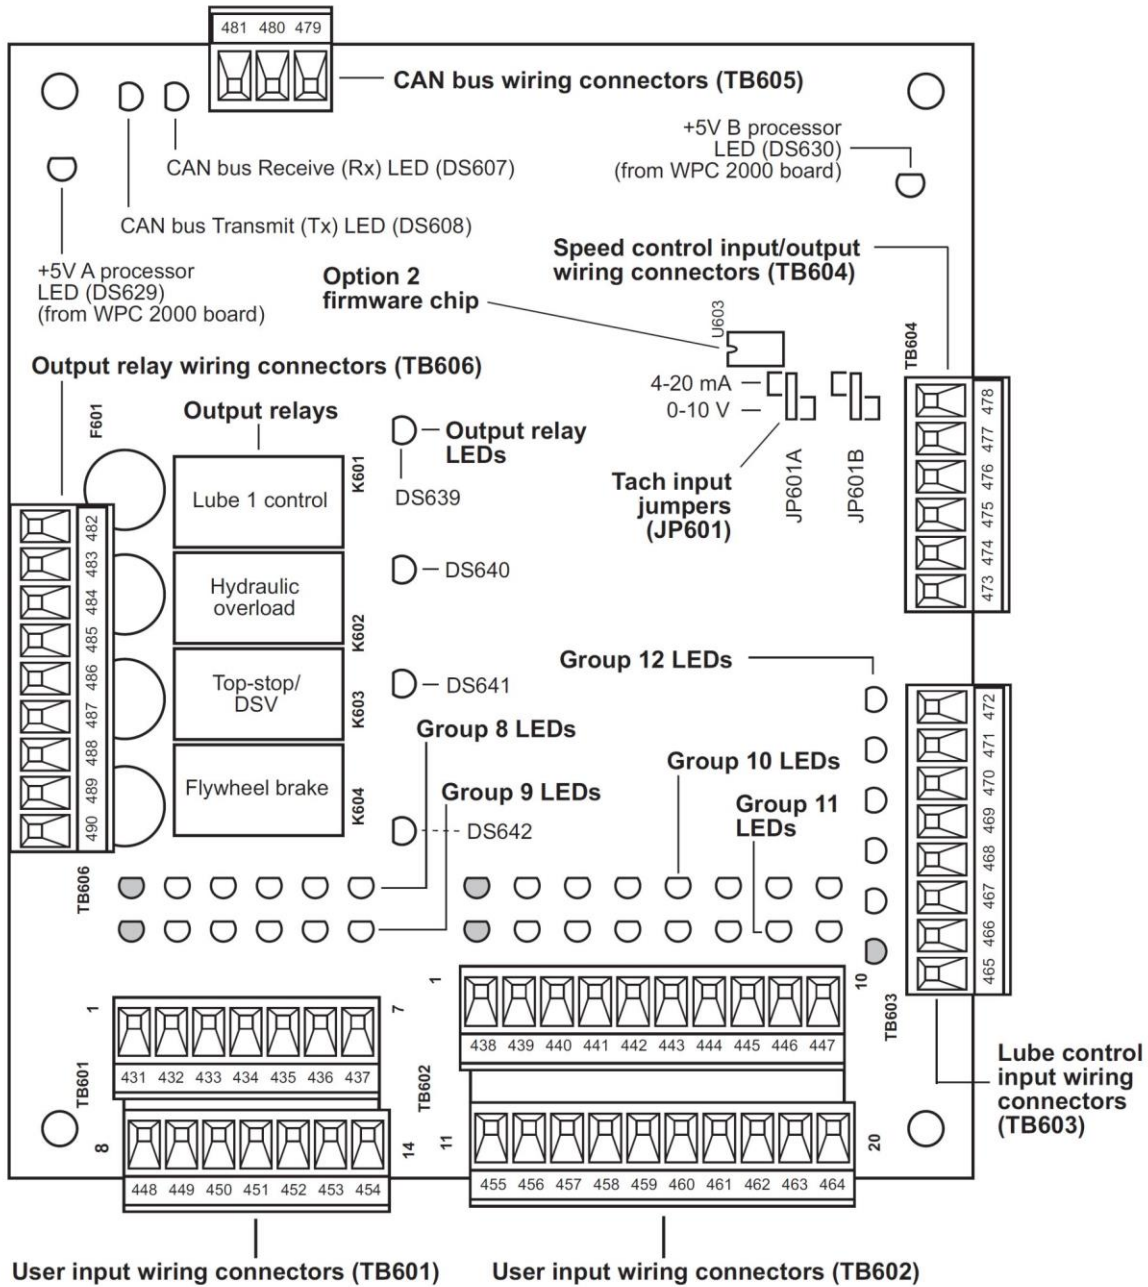

Figure 2-2. Option 2 Board: Location of Important Components
2. Making sure that you are grounded, open the enclosure and find the Option 2 firmware chip (U603) on the Option 2 board (see Figure 2-2, page 29). Note the direction in which the notch on the chip faces. A newer board may not have a firmware chip inserted; the standard code may be stored directly in the board's memory.
5. Plug the chip into the firmware socket, inserting the upper row of pins first, then aligning the bottom row of pins over the socket and pushing them in. Make sure that the notch in the chip faces in the same direction as the notch in the socket (see Figure 2-2, page 29) and that all of the pins are plugged into the socket.
Wiring connections for WPC 2000 Option 2 user inputs are made on terminal blocks TB601 and TB602 on the Option 2 board (see Figure 2-2 next page). Pin numbers are shown in Table 2-2, page 30, and Figure 1 at the end of the manual. See *Expanded User Inputs*, page 17, for a description of Option 2 user inputs.
Lube control input connections are made on TB603 on the Option 2 board (see Figure 2-2, page 29 and Table 2-4, below). You make output connections on TB606 (see Table 2-5). See also Figure 2 at the end of the manual.
Terminal block TB604 on the Option 2 board (see Figure 2-2, page 29, and Table 2-5, page 36) provides input and output connections that allow you to monitor and control the speed of a variable speed press. See *Speed Control*, page 21 for a description of the Option 2 speed control feature.